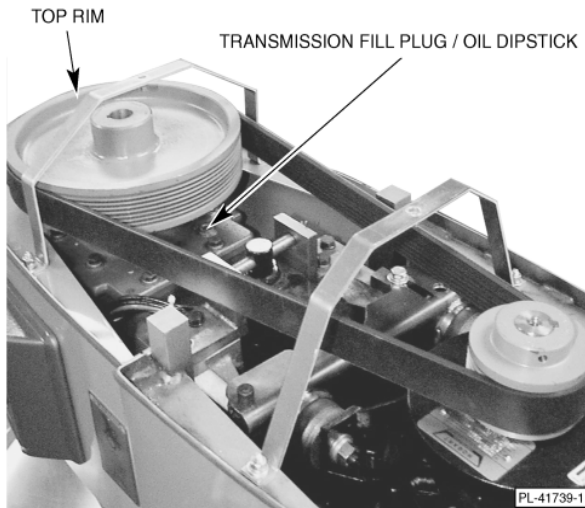

Fig. 10
- Place a level on the top rim of the large pulley (Fig. 10). Slide shims under the base contact surface of the mixer as required levelling it front-to-back and side-to-side.